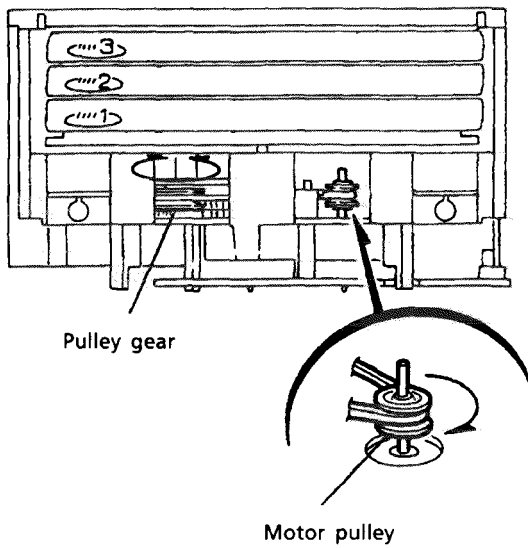
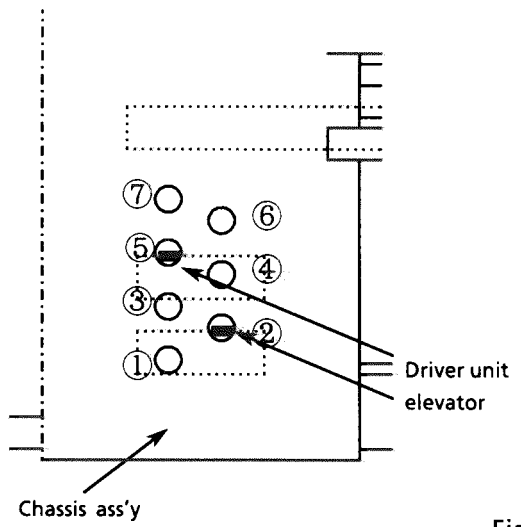

Fig. 26
Fig. 25
[NOTE] Set the elevator in correct position (Fig. 25) by rotating the pulley gear with finger if it is not positioned correctly (Fig. 26.).
12. Rotate the motor pulley clockwise with finger until the lifter unit's stopper is lowered from ⑧ hole located on the CD tray ass'y. (See Fig. 26.)